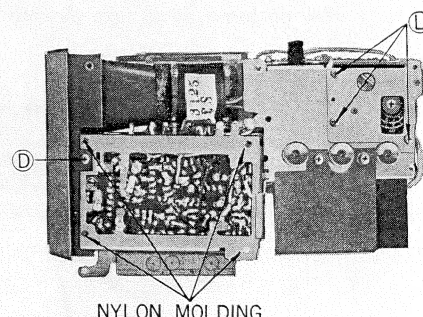
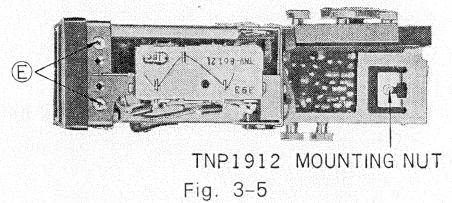
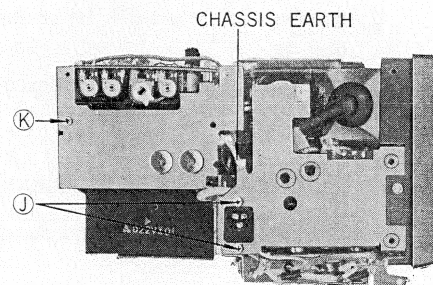

Fig. 3-4
Fig. 3-5
Fig. 3-8
- 1) Remove two screws **D** and two other screws **E** shown in the photo. (Fig. 3-4 & Fig. 3-5)
- 6) Remove the two screws ① shown in fig. 3-8 and then the external power supply connecting terminal.
- 7) Remove the ground wire from the chassis shown in Fig. 3-8. Unsolder the red and black leads of the high-voltage rectifier.
- 8) Remove the one screw ⑫ shown in Fig. 3-8 and the three screws ① shown in Fig. 3-4. And remove the tuning mechanism.
- 9) Loosen the mounting nut for the printed circuit board shown in Fig. 3-5.